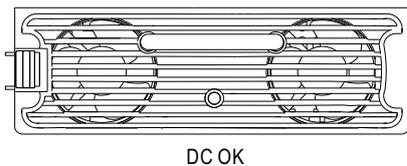

Figure 3-3: Front panel of RCP-2000
- ⊙ When DC output voltage  $\geq 80\pm 5\%$  of the rated value, the green LED on the front panel will light up (see Figure 3-3). In the mean time, there will be a "Low" signal (0~0.5V) between "DC-OK" and "GND-AUX" on CN500 connector.